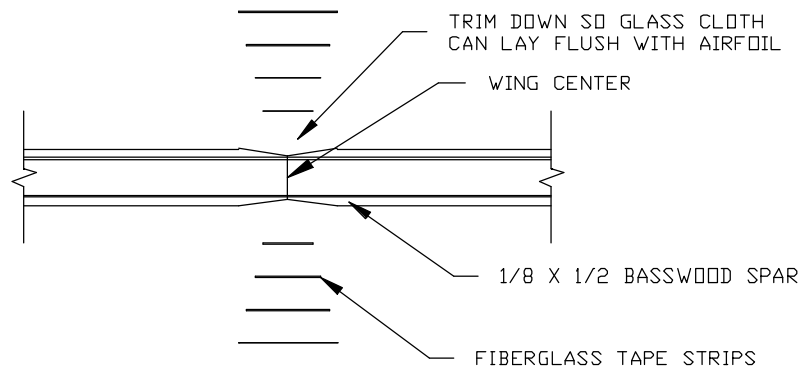
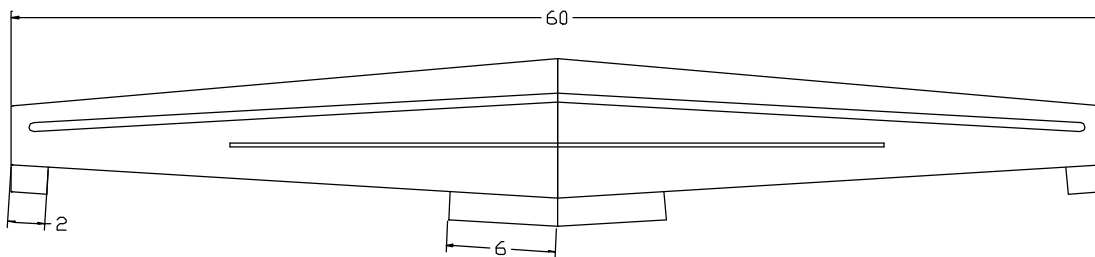

Figure 2
Figure 3
- ❑ Reinforce the center section of the basswood spars. Remove enough additional basswood from the center section to apply an additional 4 layers of glass tape to each side. (longest strip should be 1.5") See Figure 2.
- ❑ Goop in the aileron stock in the center and tip of the wing trailing edge as shown in figure 2. See figure 3 for cross section view. Goop should be applied to the EPP and the CF longeron.